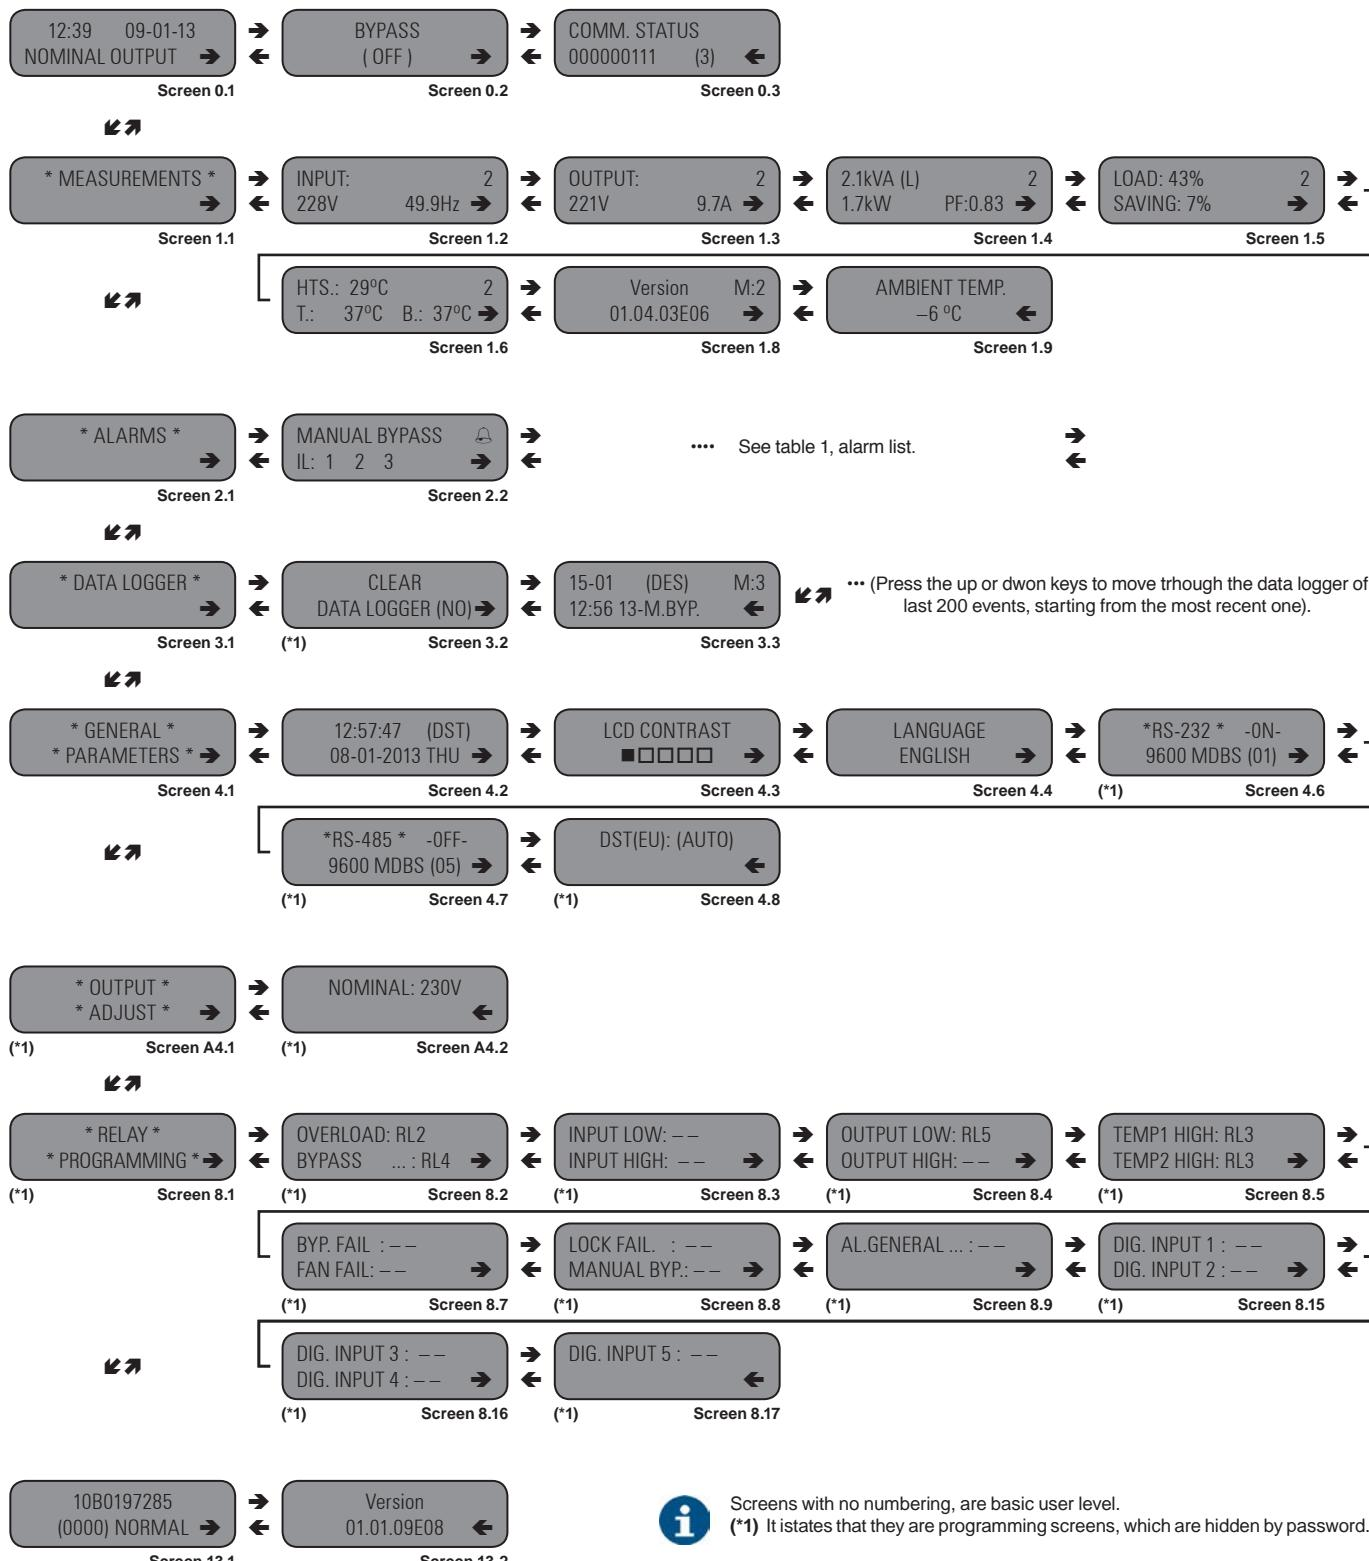

Fig. 3. Screen map of LCD panel synoptic.
- Notes related to the screens of figure 3 and represented to figure 2, as an example:
To access for restricted settings or data changing (screens with reference (*1) stated below of themselves in figure 3), enter the access «Password» (0500).